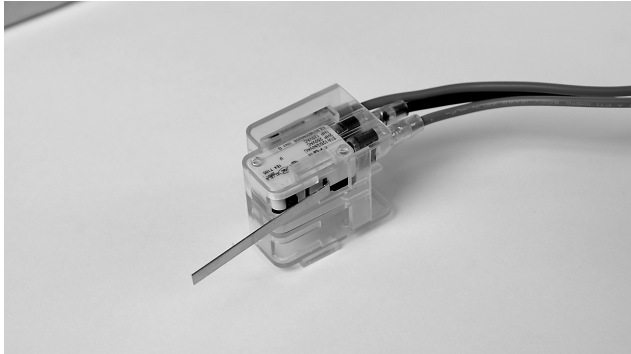

FIGURE 1
1. Install one or two of the electrical (snap-action) switches into the switch cover for the upper tab of the switch mounting bracket. See Figure 1.